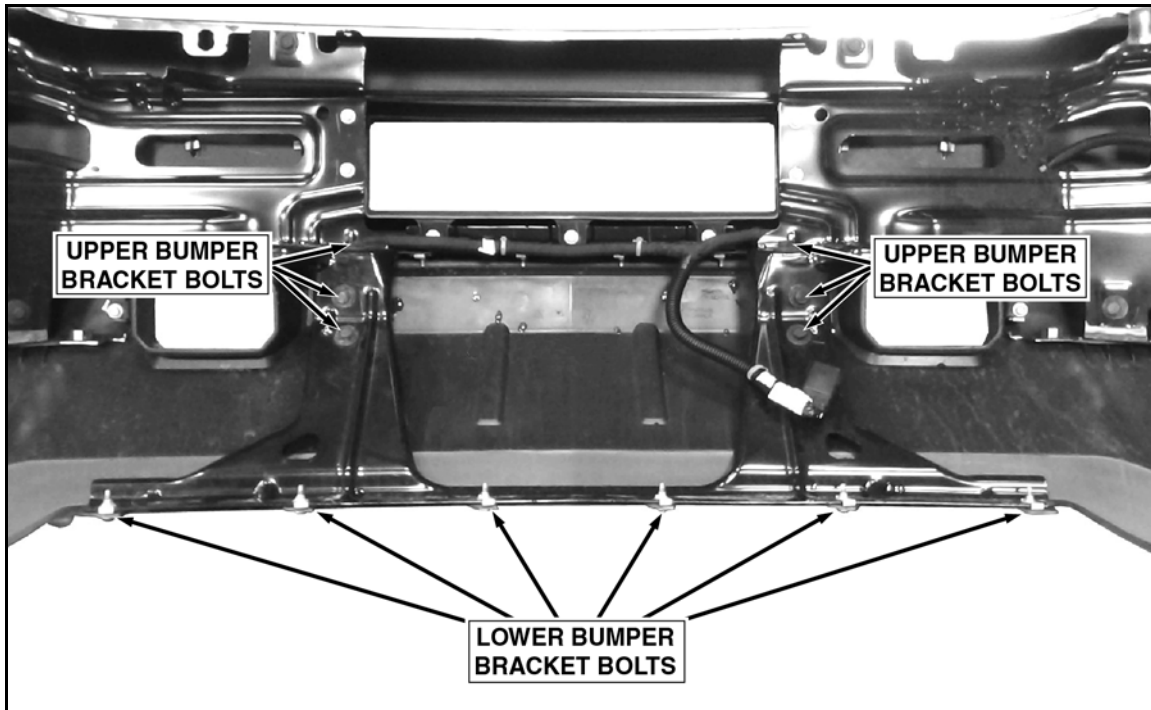

Figure 8
G. Remove 6 bolts (3 each side) holding the upper bumper bracket to the main bumper flanges. (See Figure 8.)
H. Remove 6 bolts holding the lower bumper bracket to the lower plastic portion of the bumper. (See Figure 8.)